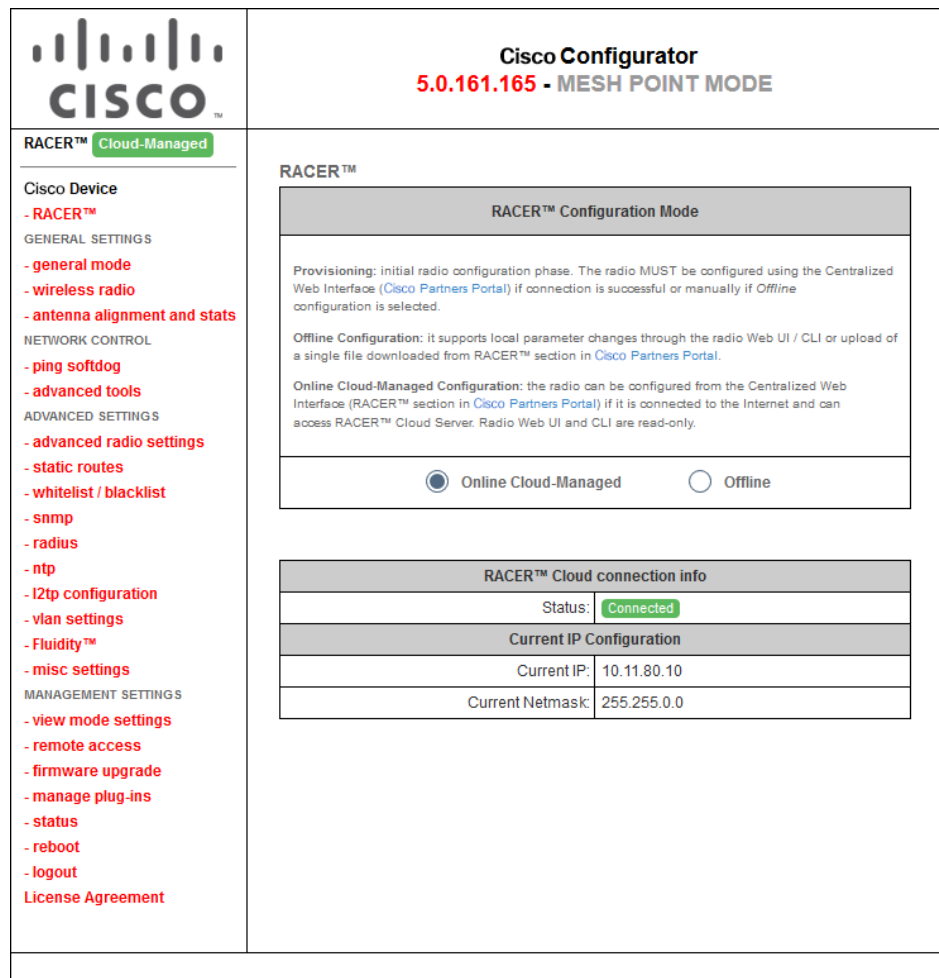

Figure 22. Cisco Configurator (landing page)
- The Configurator landing page will be shown (Figure 22 (page 47)).